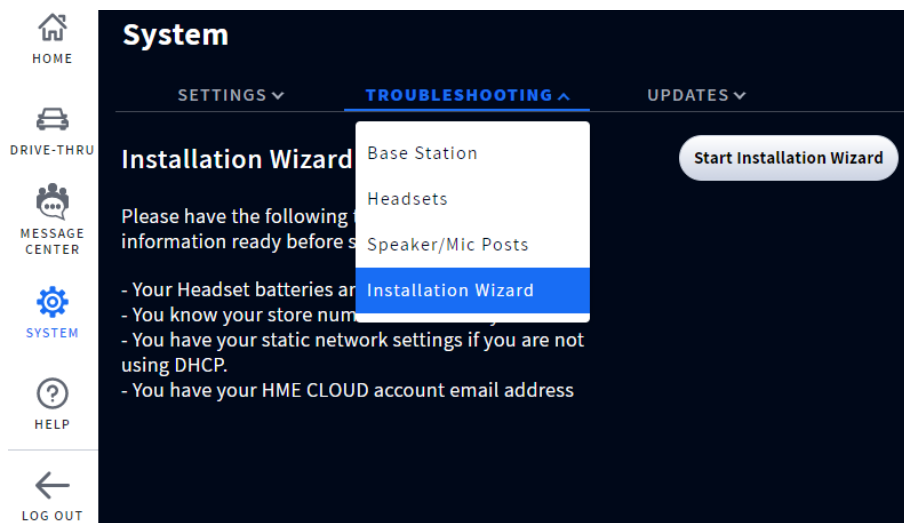

Fig. 3.4
**Note:** If you accidentally exit the Installation Wizard and need to return to it. Log in to the system, go to the SYSTEM page, and under the TROUBLESHOOTING tab select “Installation Wizard” from the drop-down list. Tap the “Start Installation Wizard” button to begin (see Fig. 3.4).